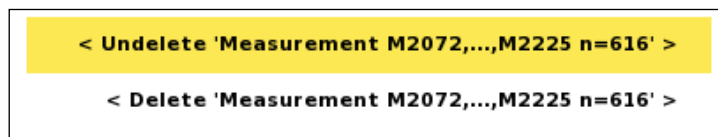

Figure 65 Undelete/Delete data points Option menu
- Highlight “<Undelete ‘Measurements Mxxx,...,Mxxx n=xxx’>” (Mxxxx represents a measurement ID) (Figure 65)